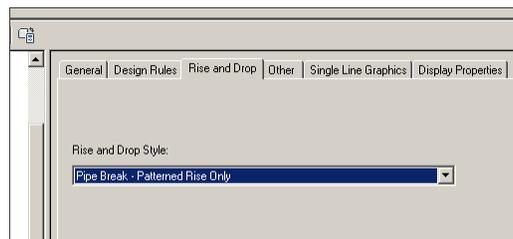

Figure 6.23 *Setting the Pipe Rise and Drop Style*
9. On the Rise and Drop tab, choose the **Pipe Break – Patterned Rise Only** style (see Figure 6.23).